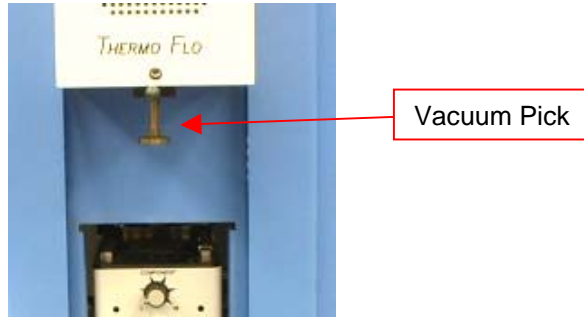

Figure 3a
- i. Insert proper size vacuum pick. The diameter needs to be smaller than the top of the component. The pick screws into place. (Figure 3a)